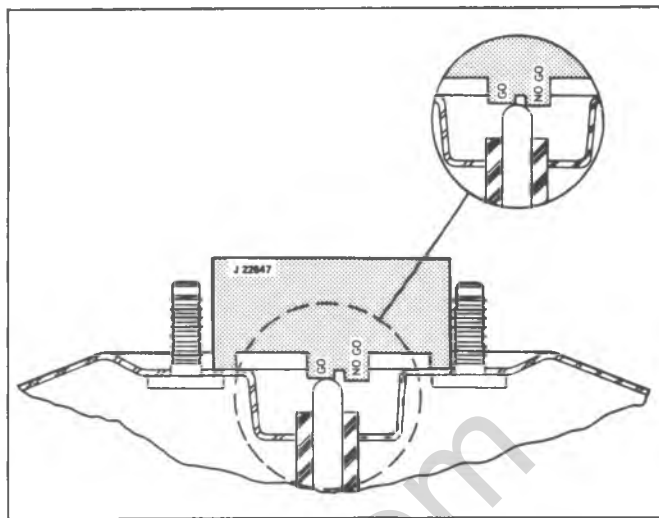

Fig. 5-5D—Gaging Piston Rod
5. Place Gage J-22647 over the piston rod in a position which will allow the gage to be slipped to the left or right without contacting the studs (fig. 5-5D).